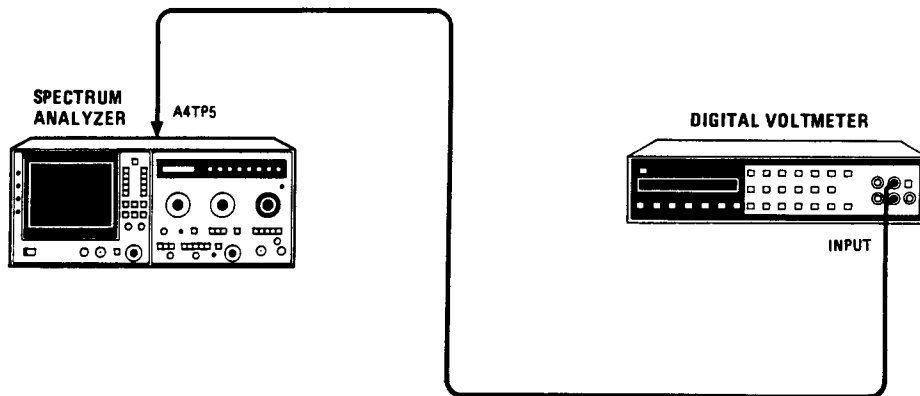

Figure 5-5. Z Axis Adjustment Test Setup
19. Connect voltmeter to A4TP5 CONT GATE (Figure 5-5). Gradually increase INTEN control to fully clockwise position. Voltage should not exceed +70V. Adjust A4R4 INTEN GAIN for a voltmeter reading of $+70.0 \pm 0.2V$.